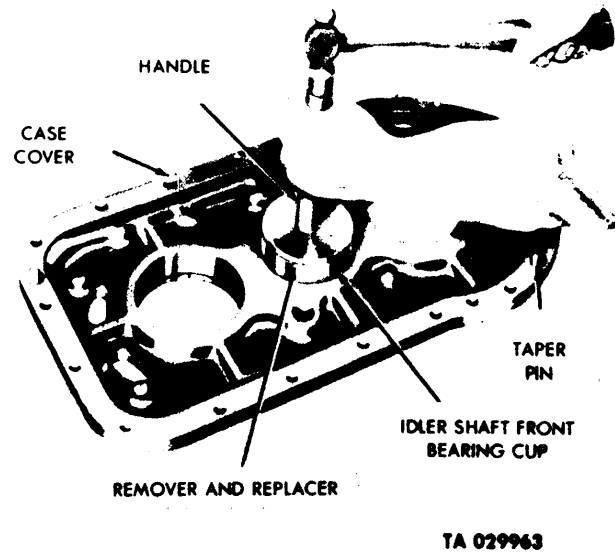

Figure 4-42. Removing Idler Shaft Front Bearing Cup.
(2) Remote the input shaft front bearing snapping from the input shaft front bearing.
(3) Using a suitable tool, remove the shift shaft oil seal from the cover.
(4) Remove the idler-shaft front bearing cup by removing the bearing cup snapping. Using a suitable remover and replacer with handle (table 2-1, items 5 and 6), drive the idler-shaft front bearing cup from the transfer case cover. (See fig. 4-42.)